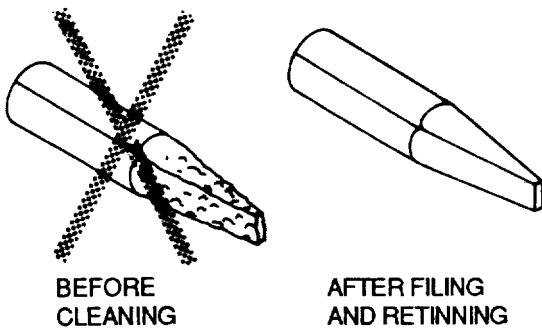

Figure 3. Soldering Iron Tip Before and After Cleaning
a. With the iron unplugged, file each working surface of the tip with a double-cut mill file until it is smooth and a bright copper color (Figure 3).